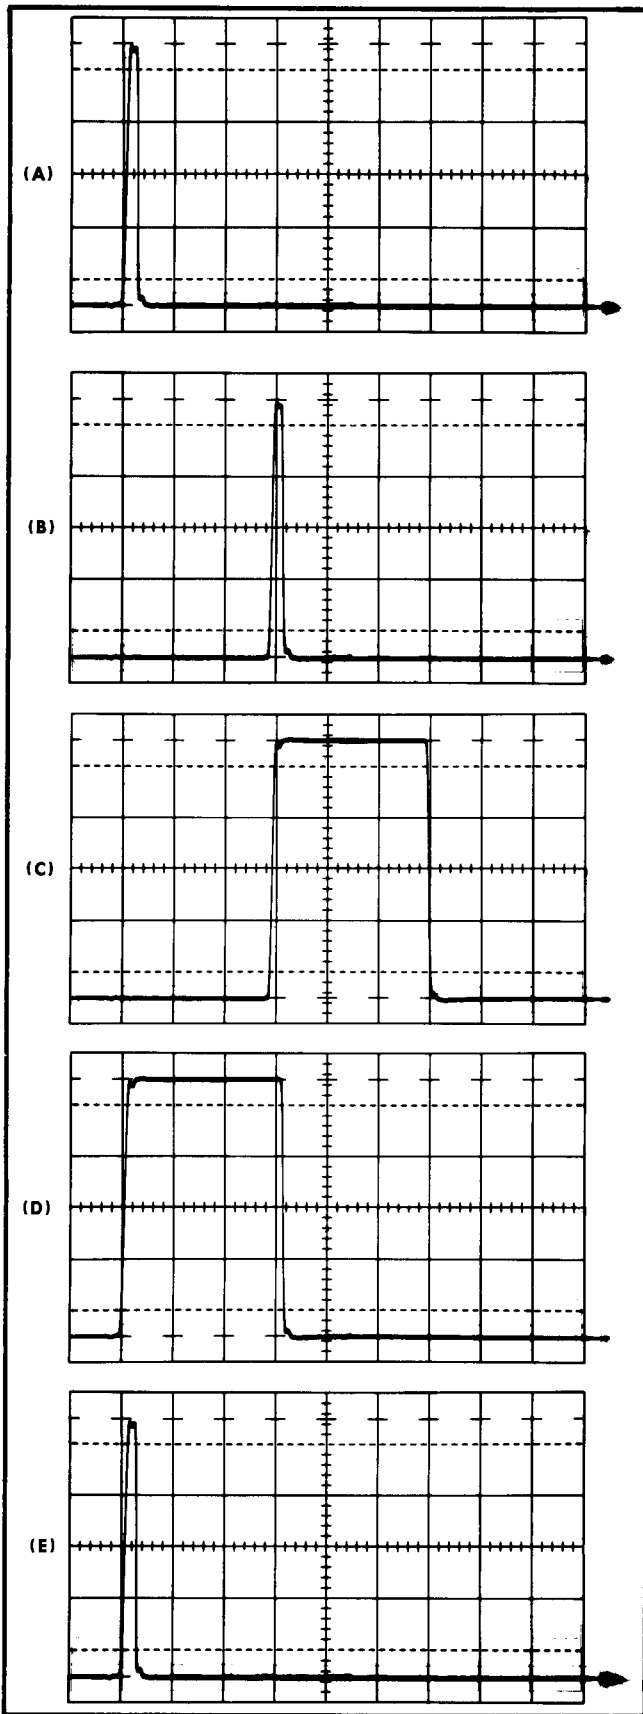

Fig. 6-8. Test oscilloscope displays for checking delay and width trigger sensitivity adjustments.
f. Observe the test oscilloscope displays (see Fig. 6-8) while performing the following four operations: